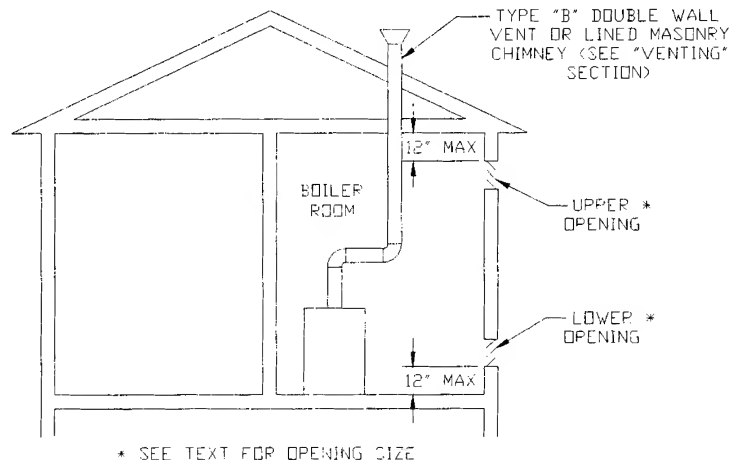

FIGURE 6: ALL AIR FROM OUTDOORS, USING
- Vertical ducts or openings directly outdoors (Figure 4, Figure 5, and Figure 6) - Each opening must have a free cross sectional area of 1 square inch per 4000 BTU/hr of the total input of all gas-fired appliances in the boiler room but not less than 100 square inches. Minimum opening size is 3 inches.